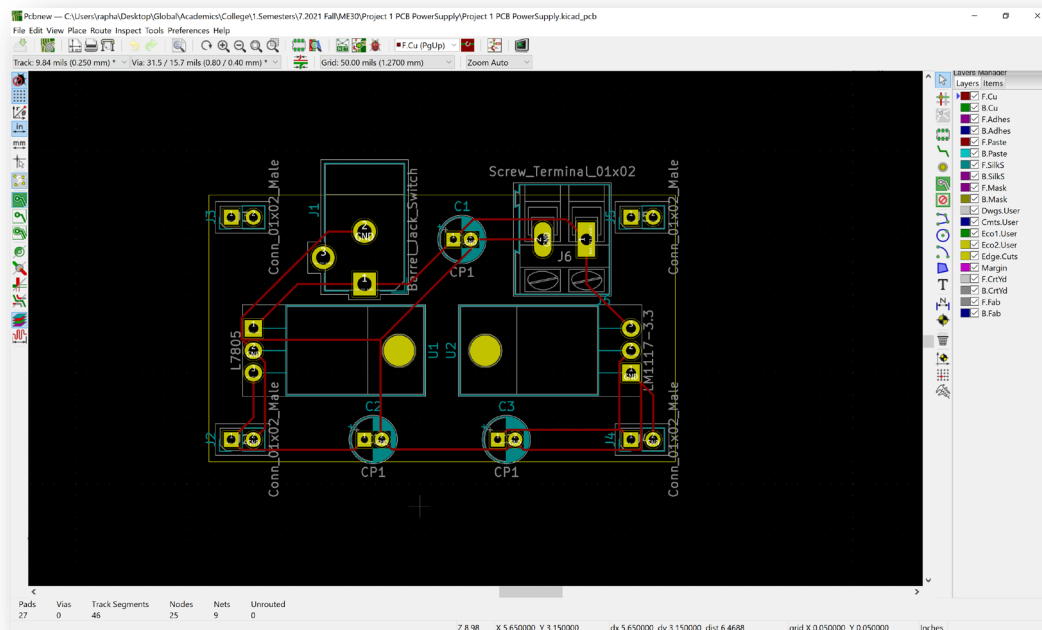

Figure 4
- Assign footprints to each of the components detailed in the circuit diagram, convert the circuit diagram into a net and produce the final PCB design from this. Check the 3D view to confirm everything appears as expected. This is below in figures 4 and 5 respectively.